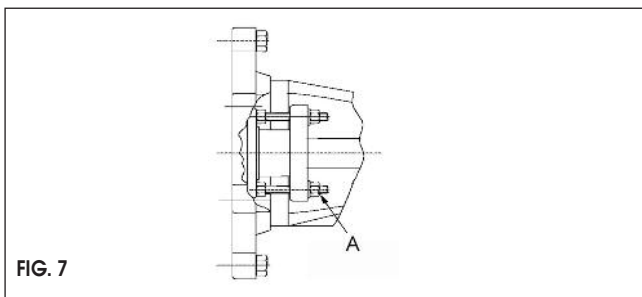

FIG. 7
10. Is the gland finger slightly tight? (**A FIG. 7**).